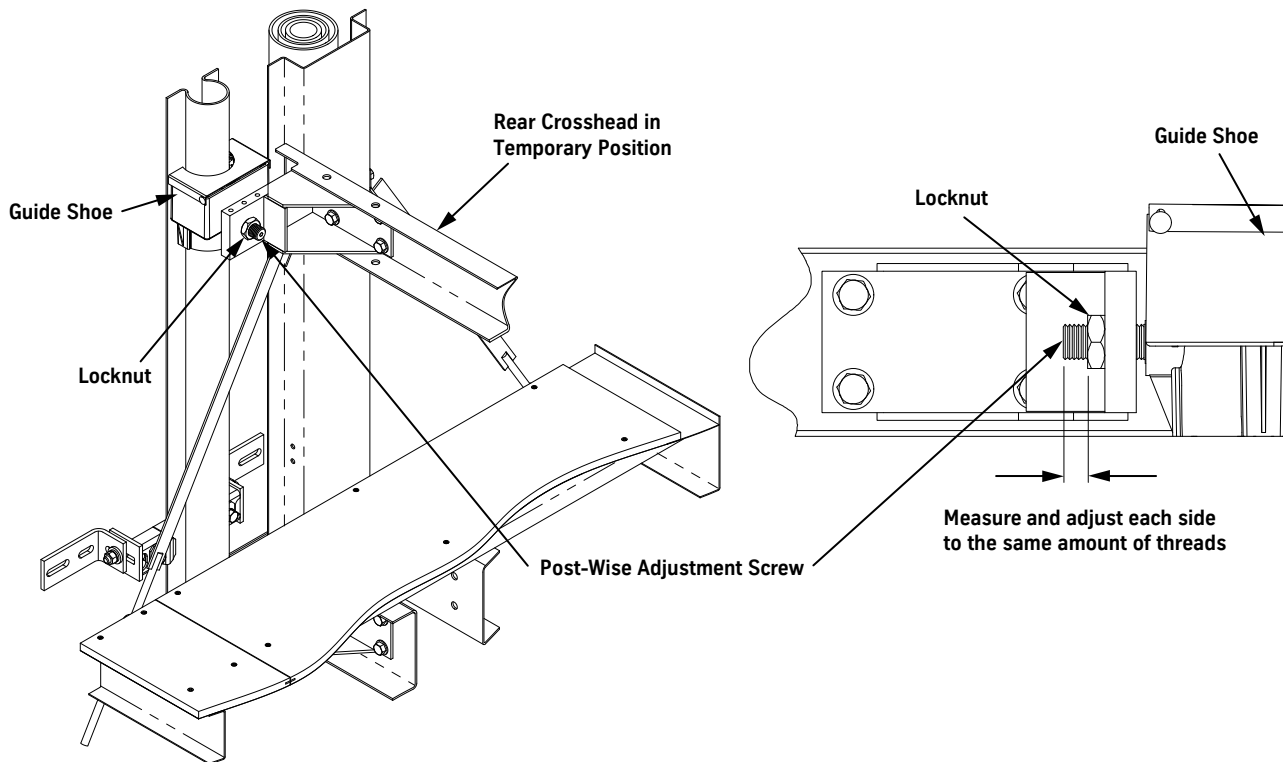
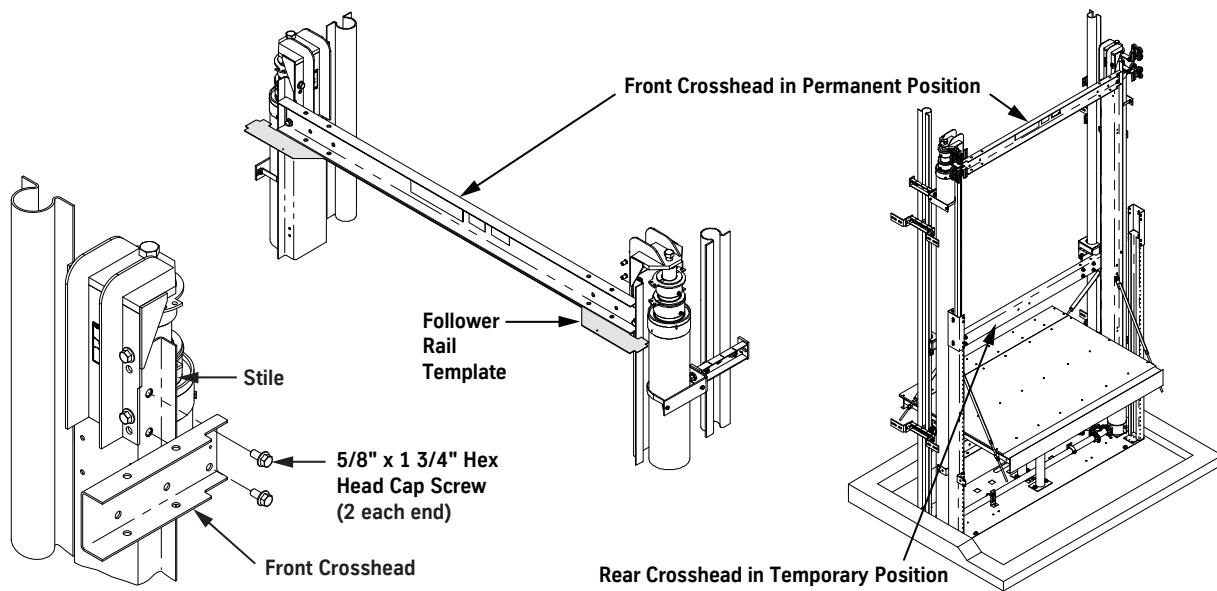

Figure 68 - Install Upper Guide Shoes
Figure 69 - Install Crosshead
1. Fasten the two upper guide shoes to the shoe mount bracket on the rear crosshead channel. See Figure 68 (below) and Figure 69 on page 1-99 for all steps in this procedure.